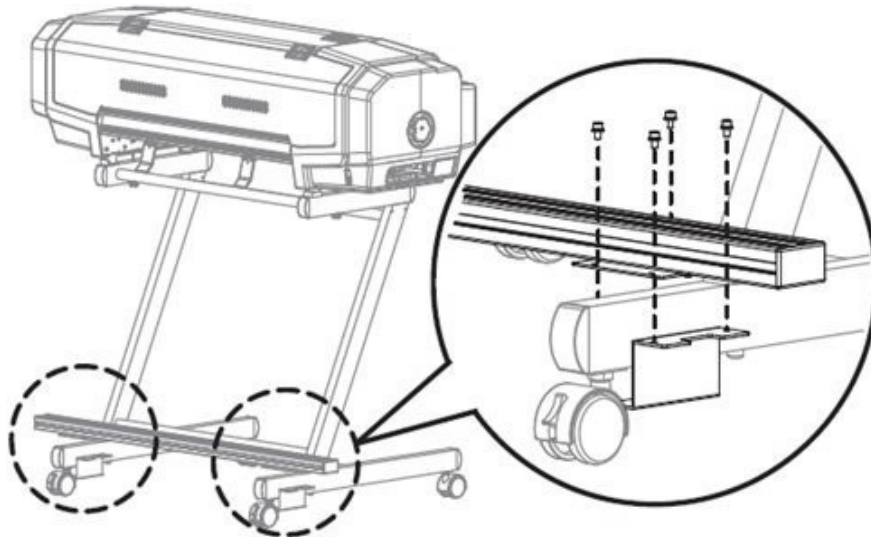

Figure 30
1. Place the rail on the front side of the stand. Attach the rail fixing plate from the bottom. Using the attached hexagonal wrench, tighten the hexagonal screw. See Figure 30.